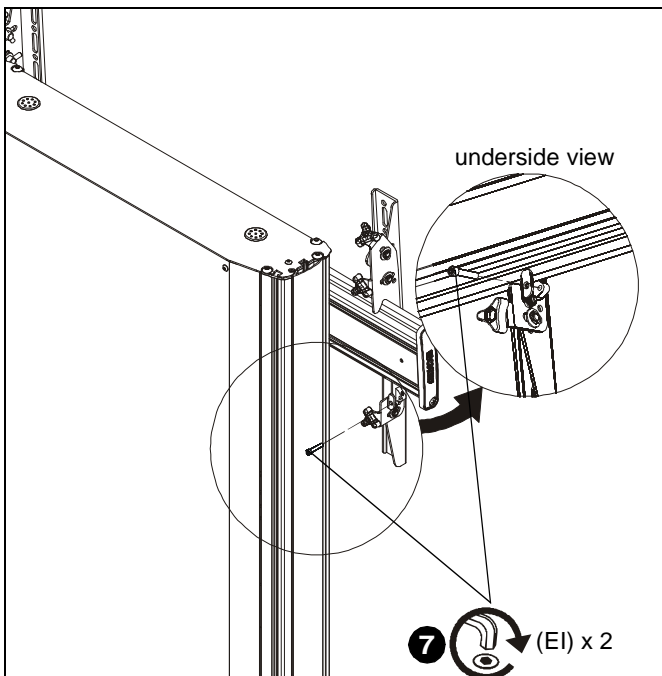

Figure 4
6. Hang interface brackets (A and B) to display rails. (See Figure 4)
7. Use 1/4-20 x 1 1/4" socket head cap screws (H1) to secure interface brackets (A and B) to rails for each display. Screws must engage through both holes to be fully secured. (See Figure 4)